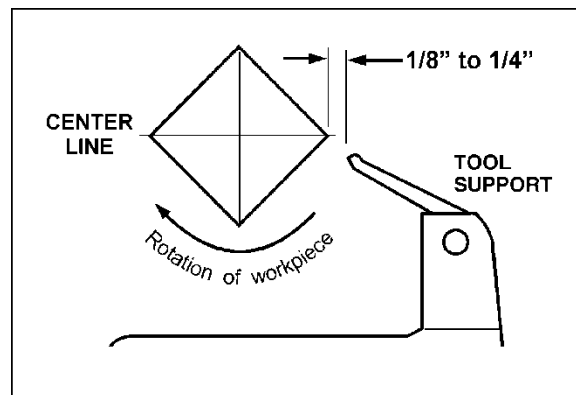

Figure 22
- Move tool support into position. It should be parallel to the workpiece, just below the centerline and approximately 1/8" to 1/4" from the corners of the workpiece to be turned, as in Figure 22. Tighten support base to Lathe bed.